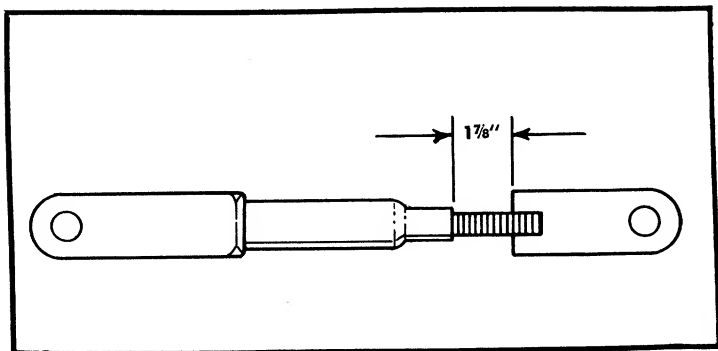

FIGURE 8. CENTER ADJUSTMENT ARM.
Step 11. Assemble the two halves of the center adjustment arm together until there is $1\frac{1}{8}$ " of thread showing. See Figure 8.